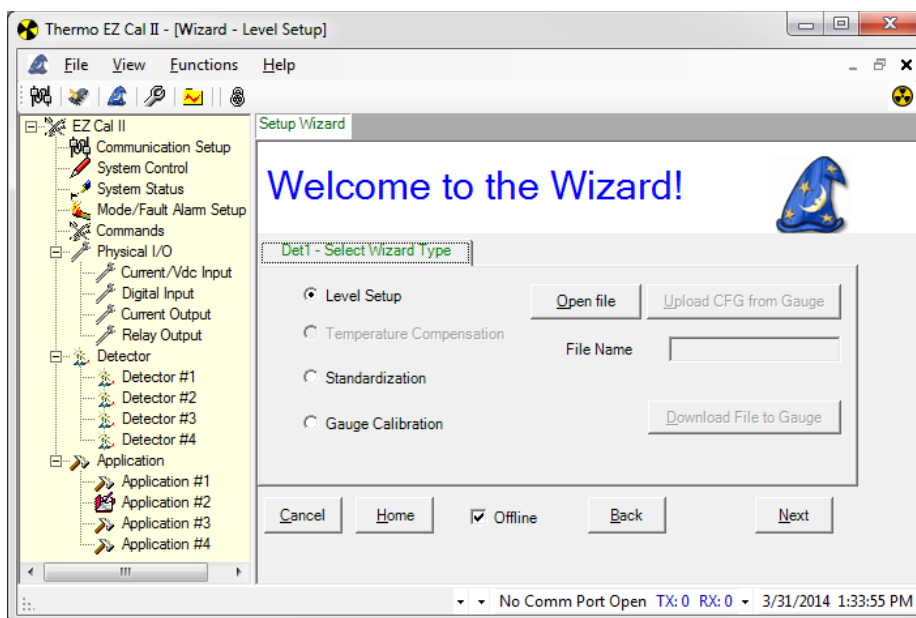

Figure 3-9. Wizard Type Selection
17. Click the Next button to return to the Wizard Type Selection screen, Figure 3-9, and complete the device configuration.